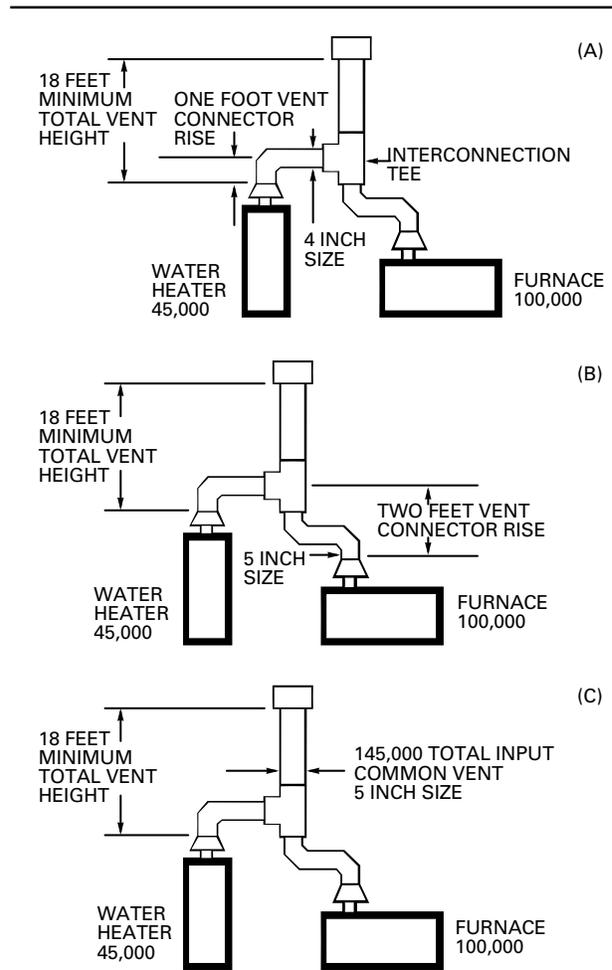

Figure 29
1. Determine the minimum (shortest) total height of the system. See Figure 29 for measuring points.
Example: To size a multiple appliance vent refer to Figures 29 and 30: Connect a 45,000 BTUH water heater with a 1 foot vent connector rise and 100,000 BTUH furnace with a 2 foot vent connector rise to a common vent with a minimum total vent height of 18 feet. The water heater is within 5 feet of the common vent and the furnace is only four